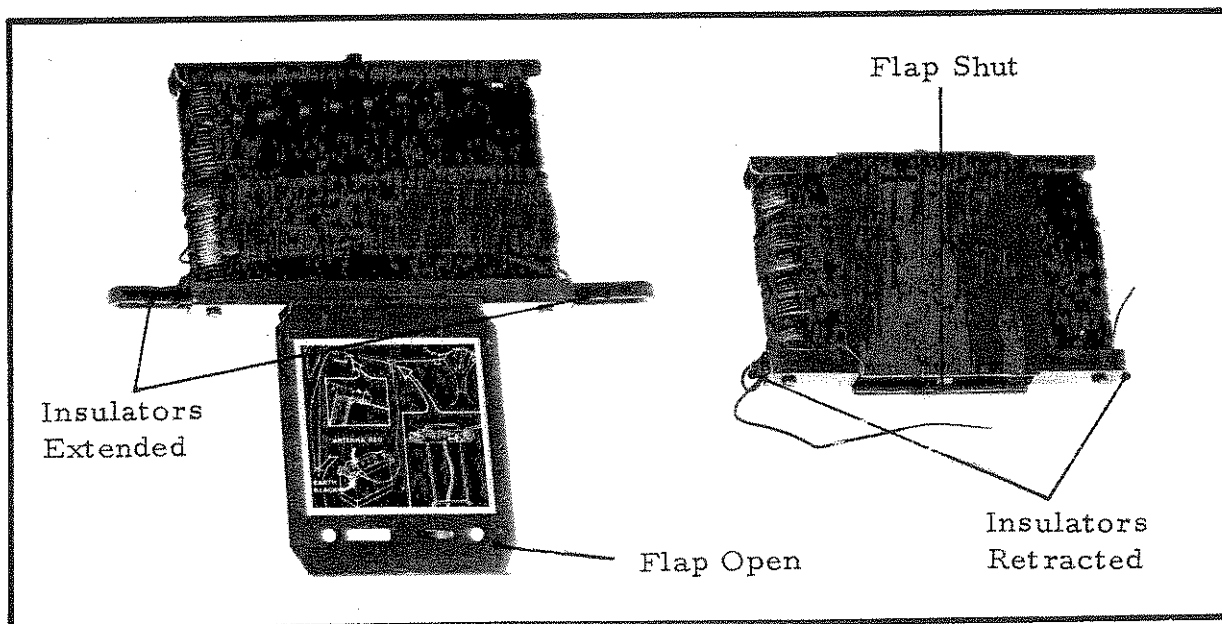

FIG 4
13. Antenna, AS-F2. (Fig 4). This is an adjustable wire antenna; two of which make up the radiating element of a dipole antenna. The wire is wound on a light metal spool and is marked at approximately 30 cm (1 ft) intervals with red beads, and at approximately 3 m (10 ft) intervals with yellow beads. The spool is fitted with two sliding captive insulators, and two hinged metal flaps which are secured with a spring catch. The inside faces of the flaps show the method of erection and the length of wire to be wound off the spool for a given frequency.